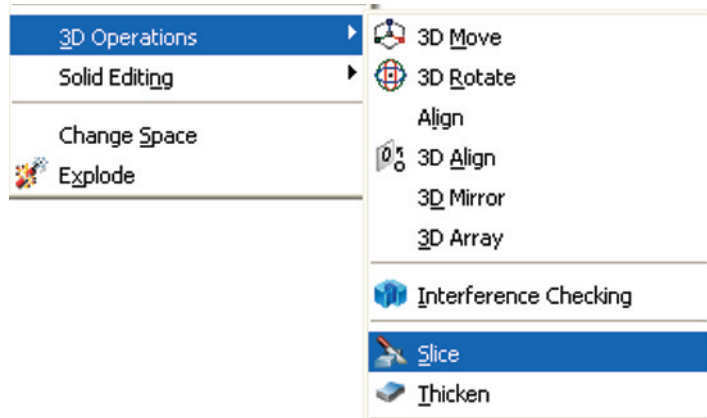

Fig. 15.22 The **Slice** tool icon from the **Modify** toolbar
3. Call the **Slice** tool from the **Modify/3D Operations** sub-menu (Fig. 15.22).